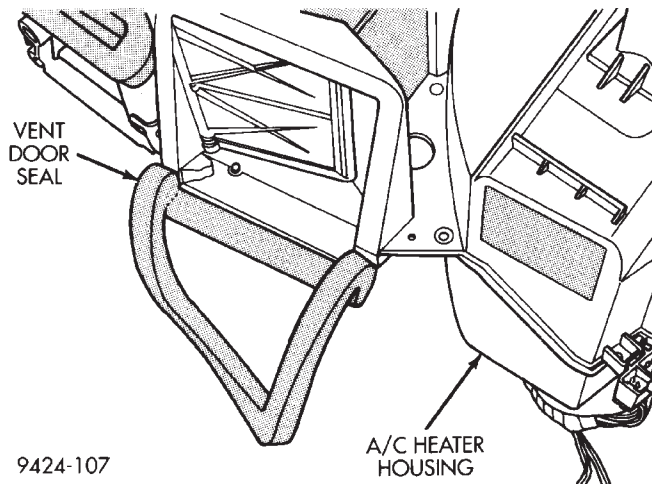

**Fig. 69 Vent Door Seal**
(15) Remove vent door seal from housing (Fig. 69).